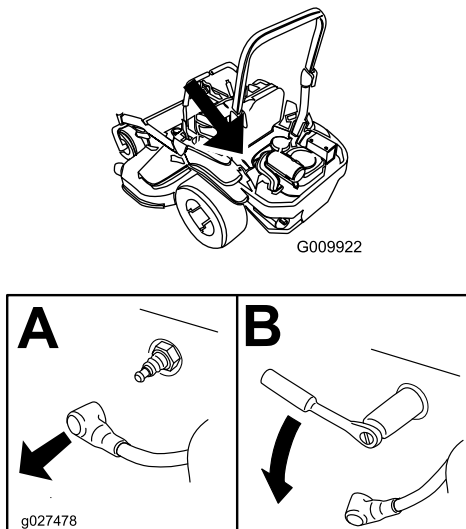

Figure 53
4. Locate and remove the spark plug(s) as shown in Figure 53.